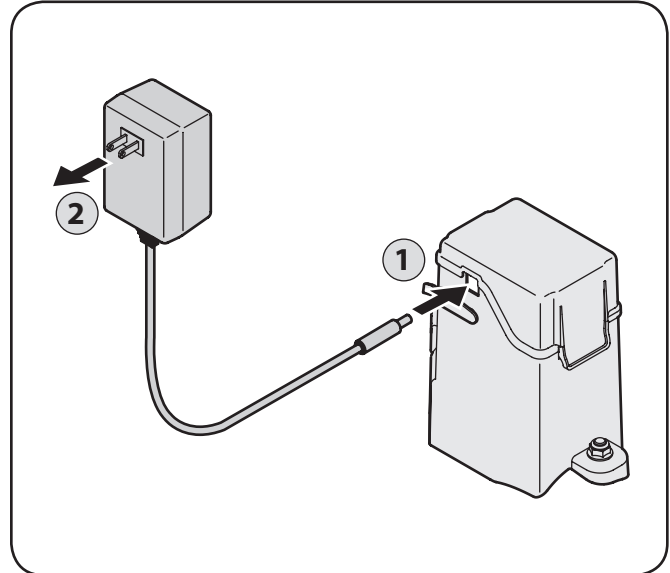

Figure 7-4
1. Unhinge the cover seal and plug the battery charger into the port on the side of the battery housing. See Figure 7-4.